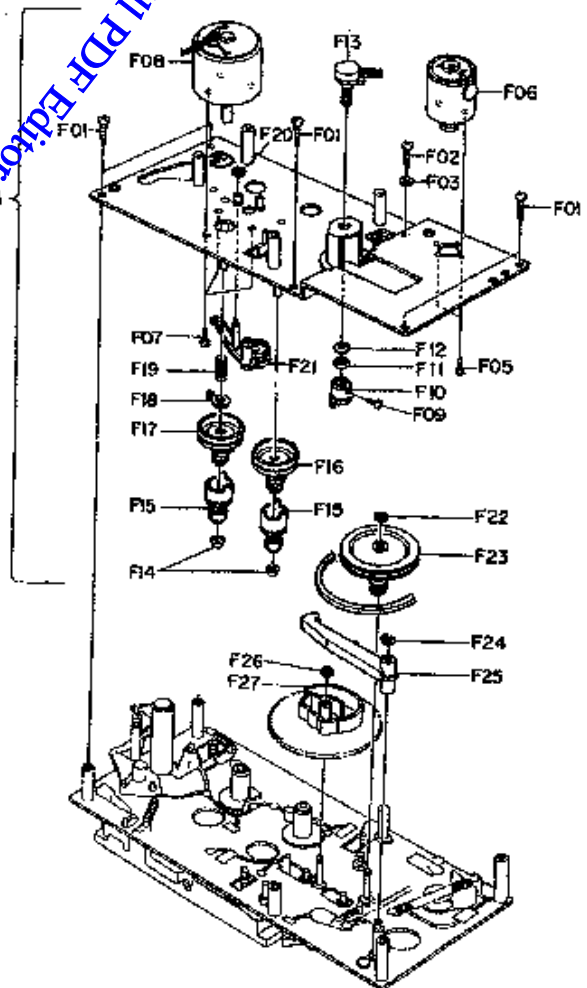

Fig. 2.8
- Refer to Fig. 2.8.
- (1) Remove Sub Mechanism Chassis Assy referring to Item 2.15.
- (2) Remove F05, then disassemble F06 (Control Motor Assy).
- (3) Remove F07, then disassemble F08 (Reed Motor Assy).
Refer to Fig. 2.8.
- (1) Refer to Fig. 2.8. Remove Cassette Case Ass'y referring to item 2.13.
- (2) Remove F01, then disassemble F02 (Head Mount Base Ass'y).